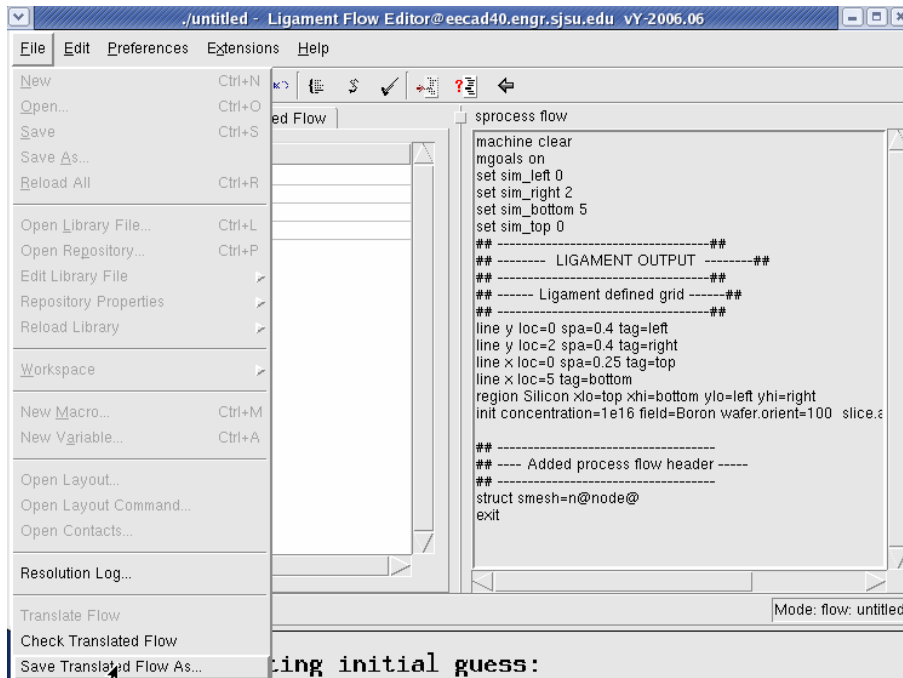

Figure 43: Saving the translated sprocess flow.
13. Save this sprocess run deck by going to File... Save translated flow (Figure 43).